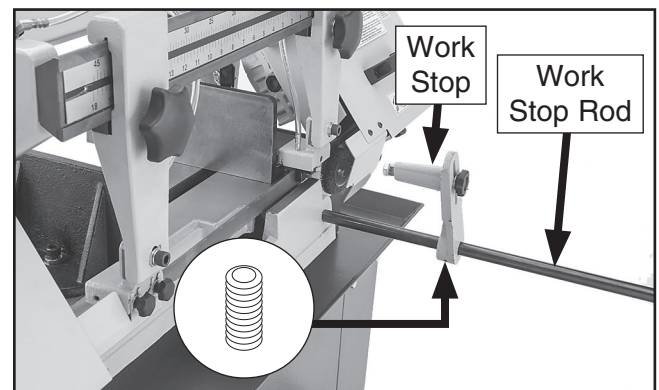

Figure 11. Work stop rod and work stop installed.
1. Thread work stop rod onto base (see **Figure 11**).
2. Slide work stop onto the rod, position it as necessary, then tighten set screw shown in **Figure 11**.